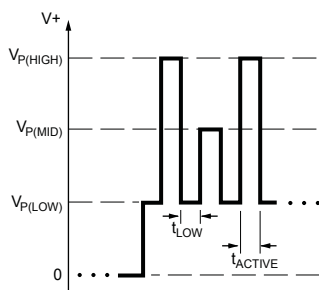

Figure 1. Voltage pulse sequence required to select the first programmable register in the first zone.
To select the register in the first zone, a sequence of one  $V_{PH}$  pulse, the key for the register, and a second  $V_{PH}$  pulse (with no VCC supply interruptions) must be applied serially to the VOUT pin. The pulse train used for selection of the first register, key 1, is shown in figure 1.